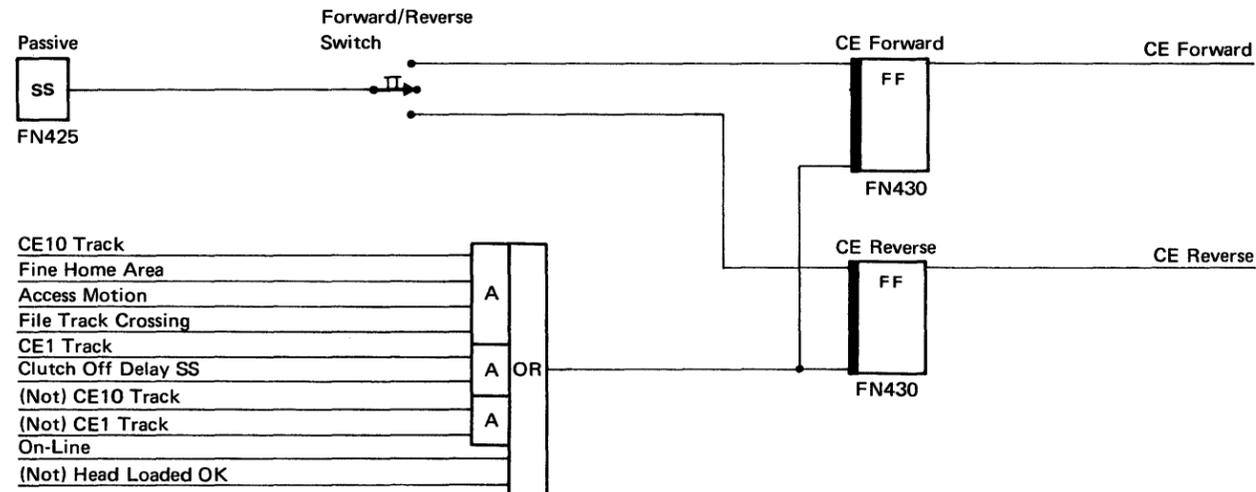

Figure 1-49. CE Control Logic [07510]
- Figure 1-49 shows the CE control logic.